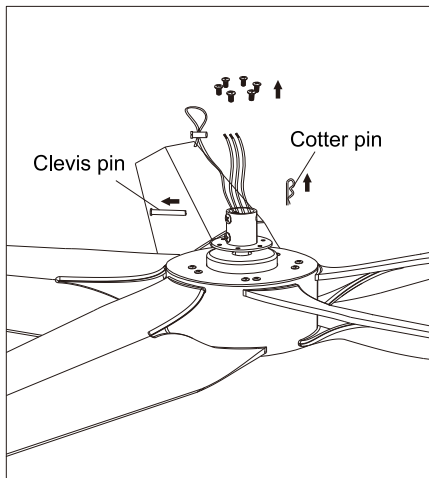

Figure 2.1
- Remove the six screws, clevis pin and cotter pin from the motor. (Figure 2.1)